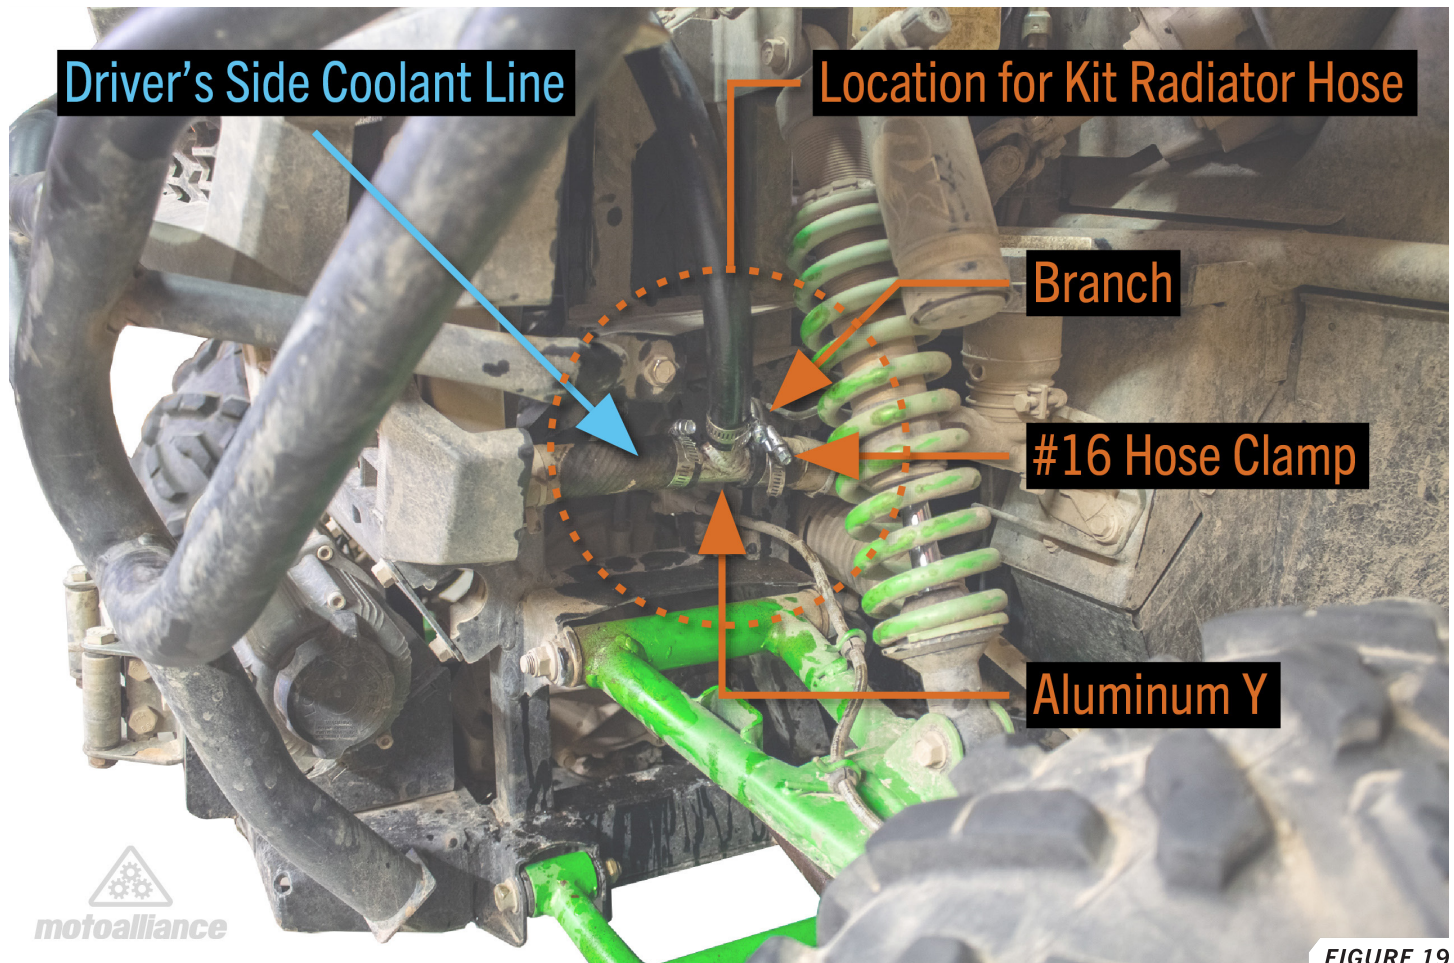

FIGURE 19
31. Locate the driver's side coolant line as shown in **FIGURE 19**.
34. Route the other length of hose through the machine to the location marked in **FIGURE 19**. Be sure to avoid any parts that could pinch or abrade the hose.
43. Slide one of the #16 hose clamps onto each side of the coolant hose, connect the aluminum Y, and secure with the #16 hose clamps. The branch should point downward. **FIGURE 19**